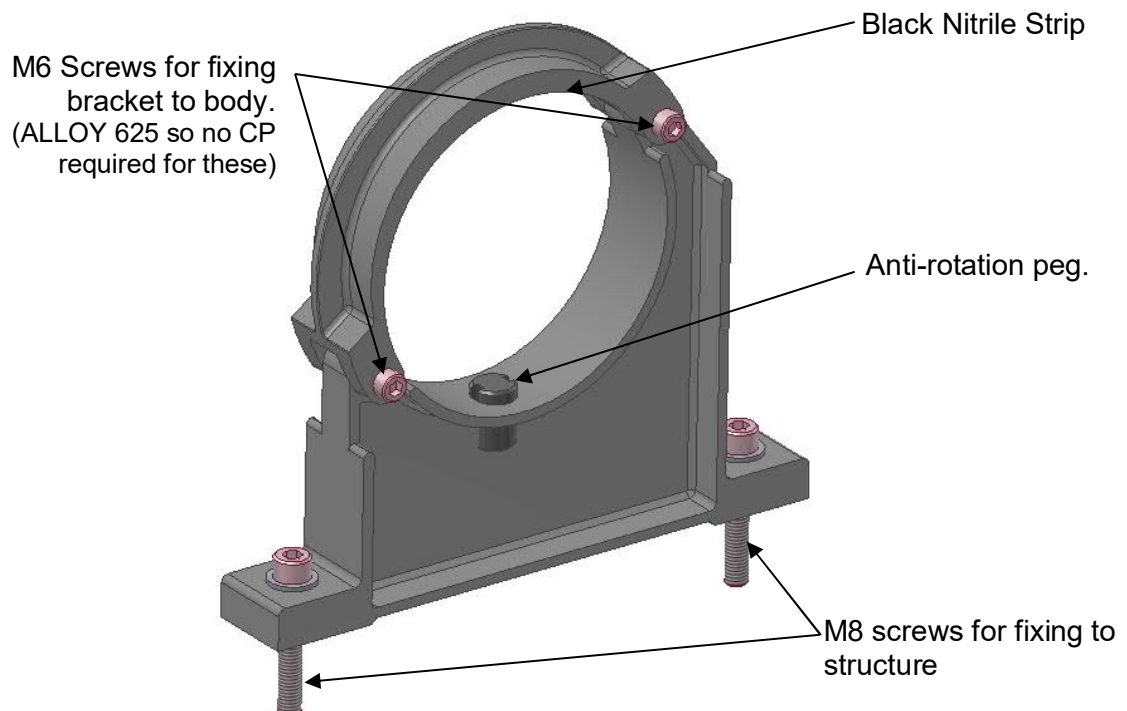

Figure 15. Mounting bracket assembly
- In the event that the brackets are not installed to the junction box body these will need to be assembled and installed. If applicable: Assemble brackets to the body taking into account the anti-rotation peg, which is to be situated on the underside of the unit and locates into a recess in the body. Fit 1-off black nitrile strip to each bracket on the opposite side to the anti-rotation peg. Tighten the M6 fasteners to 3.5Nm to complete the bracket installation. See fig 15.